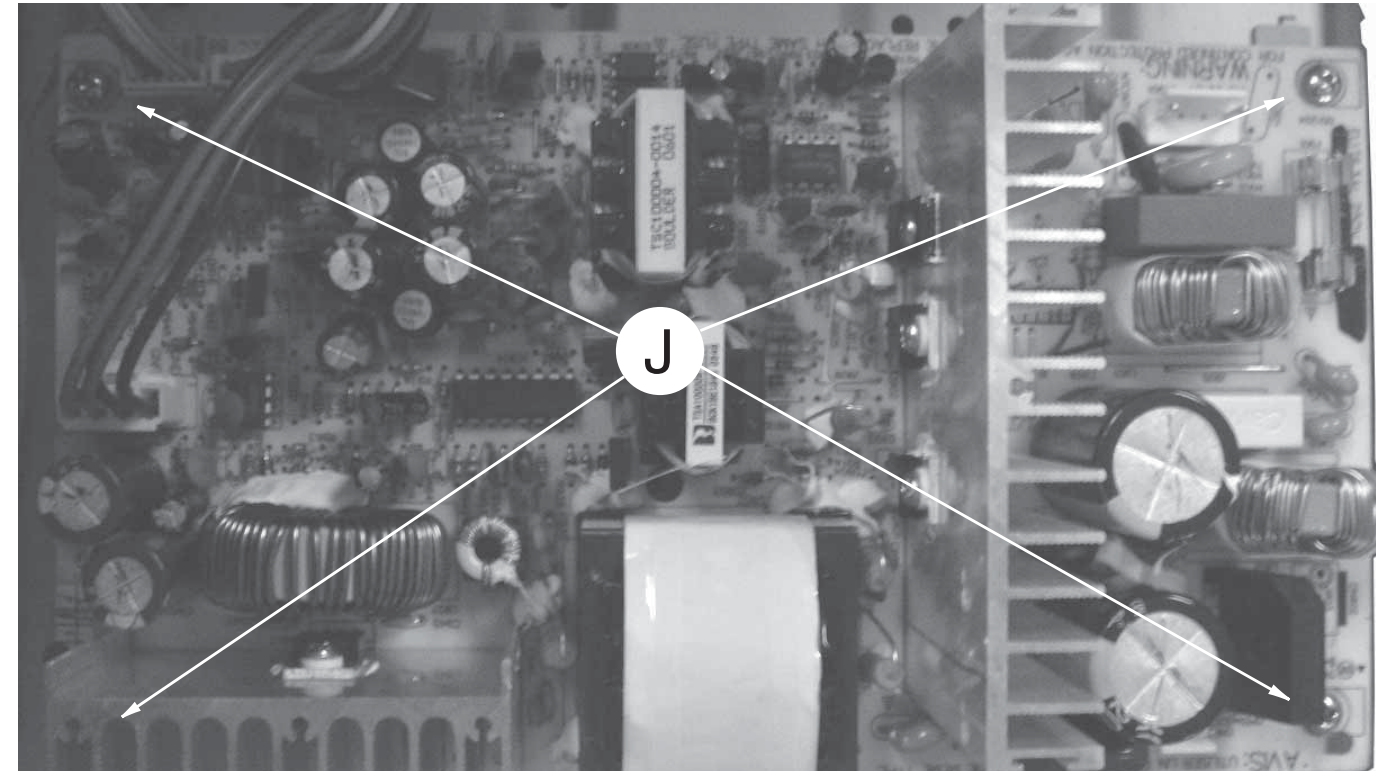

Figure 13
1) Loosen 4 screws 'J' to remove the Power Board figure 13.